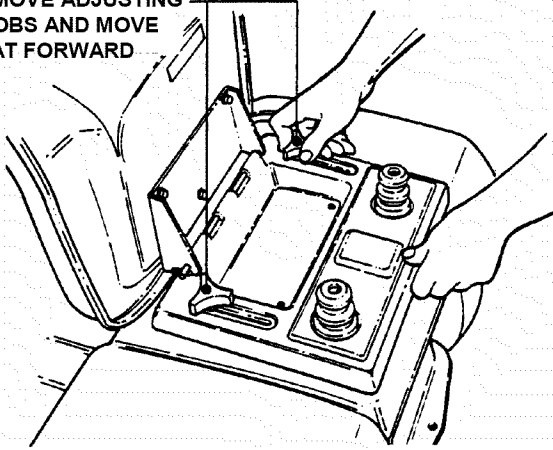

FIGURE 4.41
3. Remove seat assembly and move forward. Use care not to disconnect wires from seat switch. See Figure 4.41.